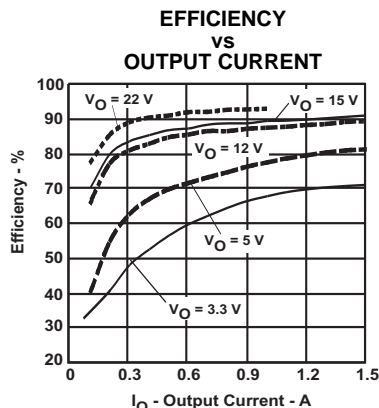
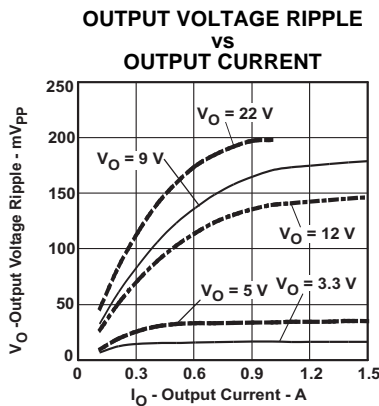
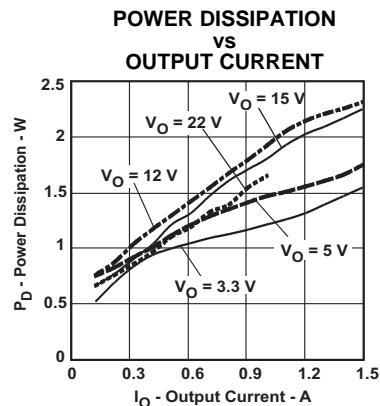

Figure 18.
Figure 19.
Figure 20.
- (1) The electrical characteristic data has been developed from actual products tested at 25° C. This data is considered typical for the converter. Applies to Figure 18, Figure 19, and Figure 20.